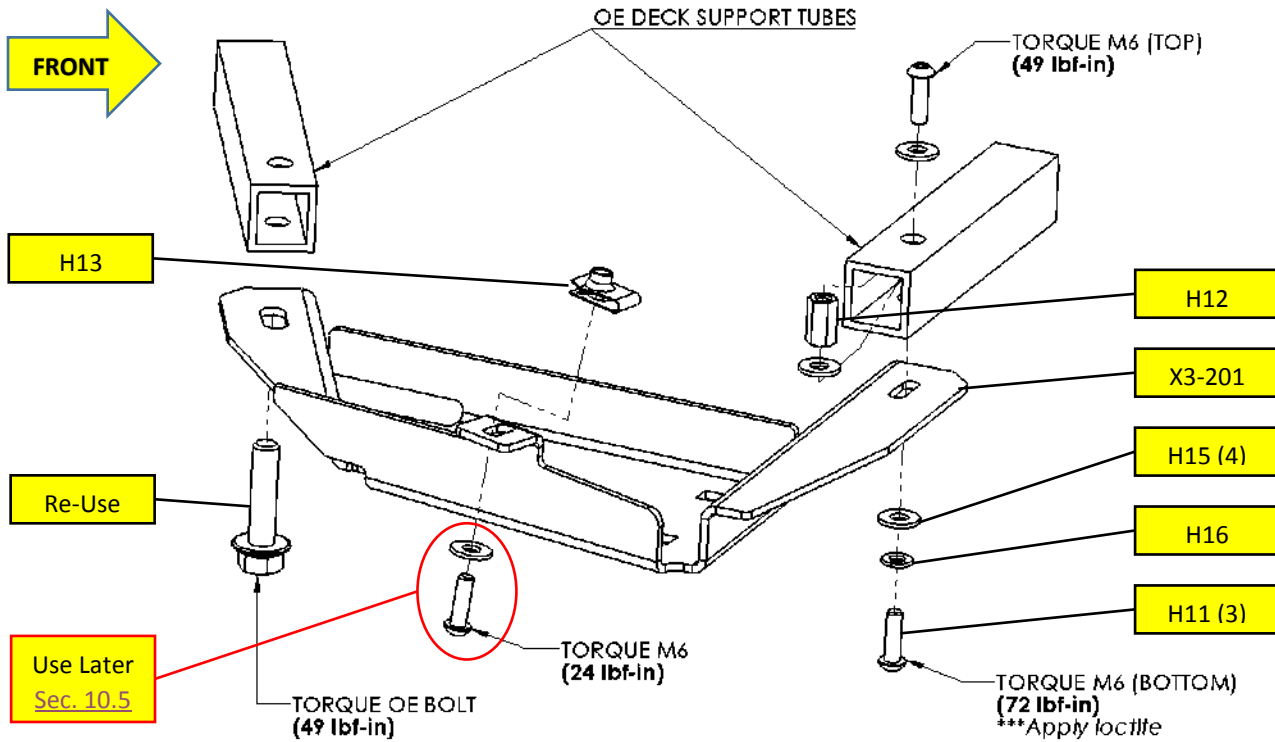

Figure 10 – Installing Rear Air Tank Bracket, Exploded View
- 8.6.2. Place Air Tank onto Brackets to determine if front Bracket needs to be adjusted (i.e., made level); make any hand adjustments necessary, remove Air Tank, then **final torque front Bracket**, per figure 10 above.